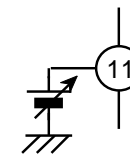

Fig.3
6. Power save mode is provided for saving I_{cc} less than about 10mA as Fig.3.